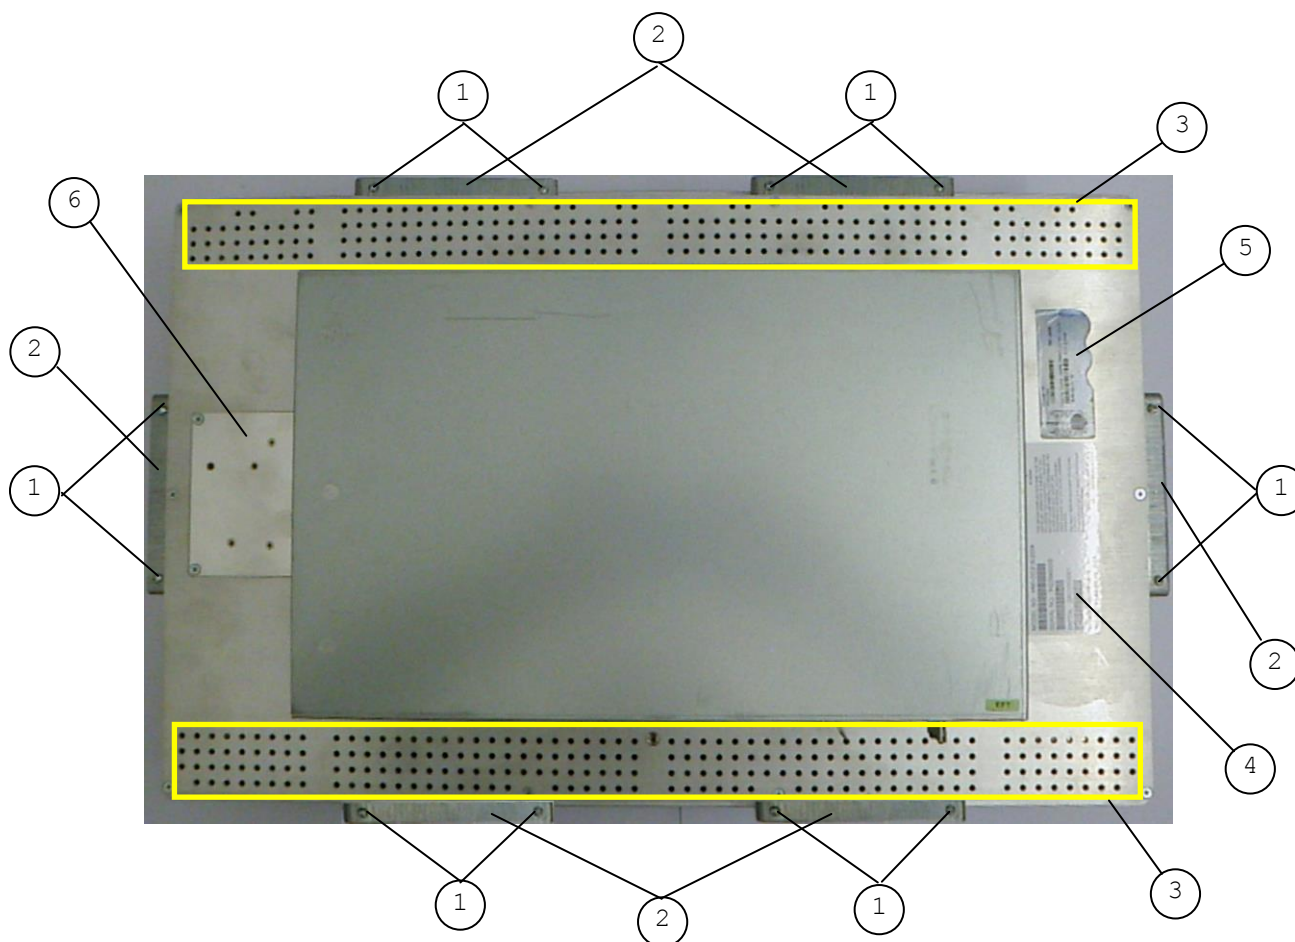

Fig. 12: Rear side of OmniClient
3. Loosen the two computer base cover screws that secure cover to the computer base (refer to figure 12, position 2) and slide the access door away from the computer base to open.
5. Hook the mounting clamps with screws (**Error! Reference source not found.**15, pos. 1 and 2) from the rear side of the panel into the corresponding pairs of slots of the Display enclosure (Fig. 12 and 13 item 6, and Fig 14 item 4 with matching slots on the bottom side as seen in Fig 15).